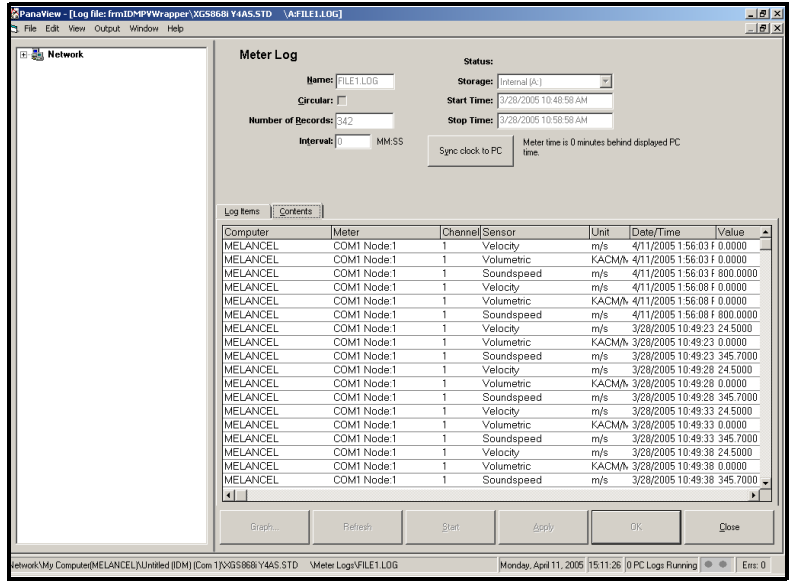

Figure 21: Typical Log Contents
- Click on the *Contents* tab (see Figure 21 on page 10) for a list of all the data points logged to date for the parameter currently highlighted on the *Log Items* tab.
Remember that only two parameters per channel may be graphed, and that the same two parameters must be graphed for each channel of a multi-channel graph display. When you have finished viewing the graph, click on the **[Close]** option button to close the Graph window and leave the log running. To review log details, click on the *Contents* tab. The window now appears similar to Figure 21.
- Click on the *Log Items* tab (see Figure 21 on page 10) for a list of the parameters specified for logging.